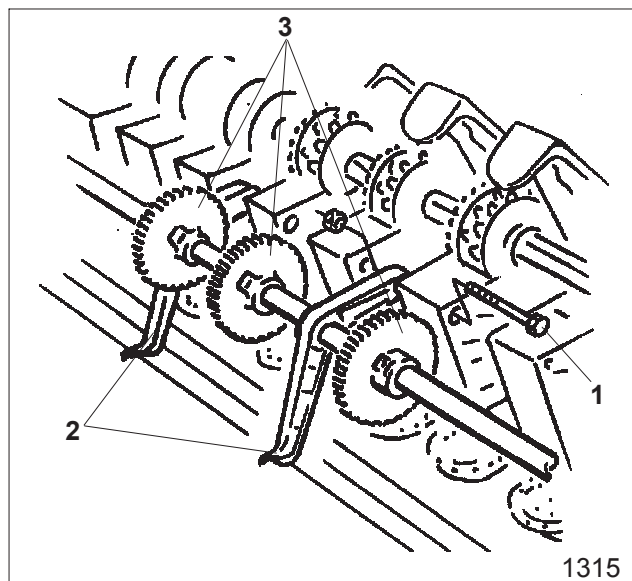

Fig. 18.27
- Unscrew the swivel bearings (Fig. 18.27/2) fastened to the old tramline seed housing using a hexagon bolt (Fig. 18.27/1).
- Detach the lay shaft (Fig. 18.27/3) and push onto the lay shaft.
- Fit swivel bearing (Fig. 18.27/2) on the new tramline seed housing.